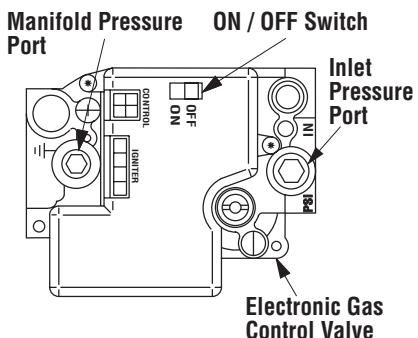
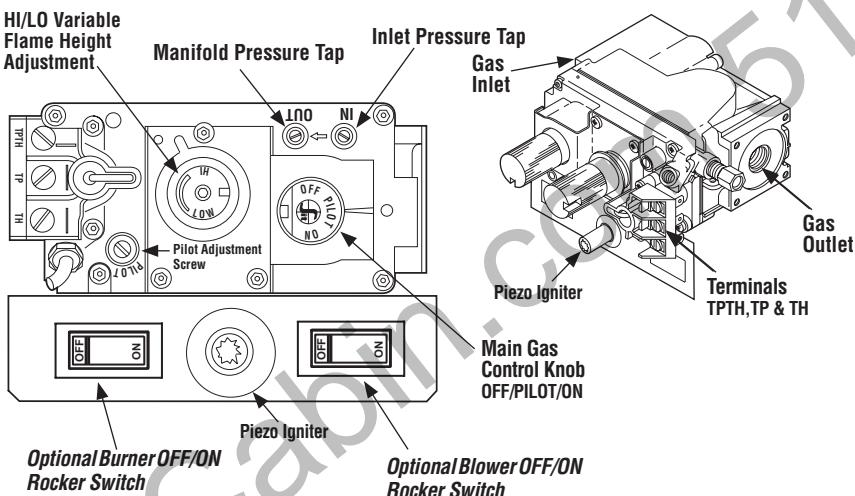

Figure 3
Figure 4
Test gauge connections are provided on the front of the millivolt gas control valve, identified IN for the inlet and OUT for the manifold side (see **Figures 4 or 5 on Page 5**). A 1/8" NPT Test gauge connection is provided at the inlet and outlet (manifold) ports on the electronic gas control valve (see **Figure 3 on Page 5**).
**Millivolt Appliances** - Appliances with Millivolt systems will be fitted with the gas control valve shown in **Figures 4 or 5**.
**Electronic Appliances** - Appliances with electronic systems will be fitted with the electronic valve shown in **Figure 3**.
1. All Millivolt appliances are equipped with a variable gas control valve. Flame height for these models may be adjusted through a range between fixed low and high settings while the appliance is in operation. Adjust the flame height as desired after lighting the appliance by rotating the variable adjustment control knob (HI/LO) located on the front of the valve (refer to **Figures 4 & 5**).